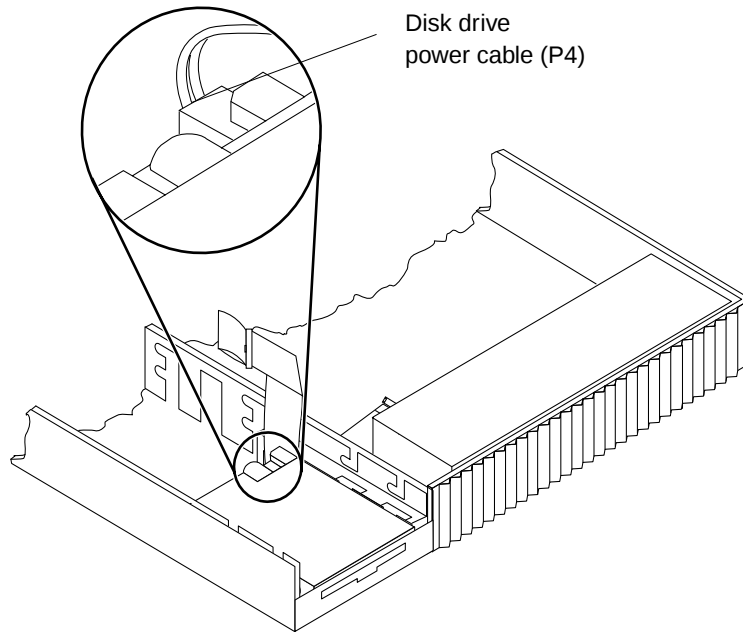

FIGURE 9-11 Diskette Drive Power Cable
- 5. Place the screwdriver tip into the drive bracket slot next to a diskette grommet. Use the screwdriver as a lever to move a diskette grommet forward, toward the center of the chassis (FIGURE 9-11).**
- 7. Disconnect the power cable from the diskette drive (FIGURE 9-11).**